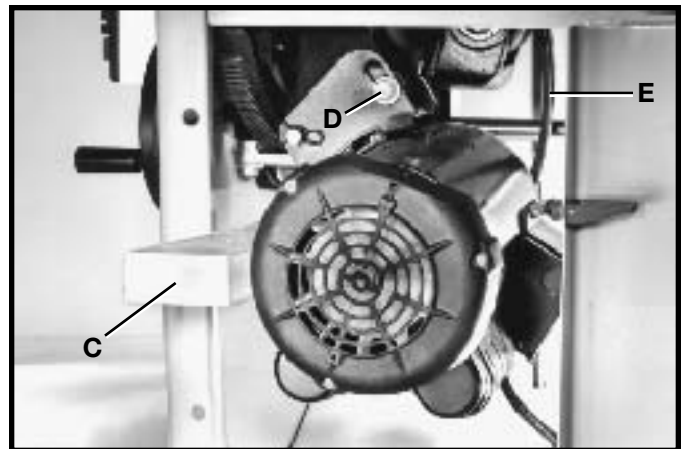
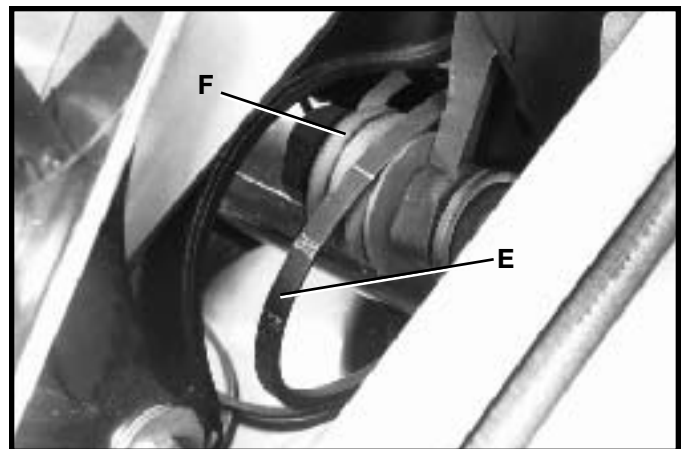

Fig. 72
Fig. 73
3. Place a block of wood (C) Fig. 72, between the motor and saw cabinet as shown. **NOTE:** It may be necessary to raise the saw arbor in order to insert the wooden block. Lower the saw arbor until the motor contacts the wood.
4. Loosen bolt (D) Fig. 72, and continue to lower the saw arbor until all tension is removed from the belts (E). Tighten bolt (D).
5. Raise the saw arbor slightly and remove the block of wood (C) Fig. 72.
6. Lower the saw arbor. Remove the belts (E) Fig. 72, one at a time from the motor pulley.
7. Remove the belts (E) Fig. 73, one at a time from the arbor pulley (F).
8. Assemble the three new belts, one at a time in the grooves of the arbor pulley (F) Fig. 73, and onto the motor pulley.
9. When the new belts are assembled on the arbor pulley (F) Fig. 73 and the motor pulley, loosen screw (D) Fig. 72, and carefully let the motor rest on the belts.